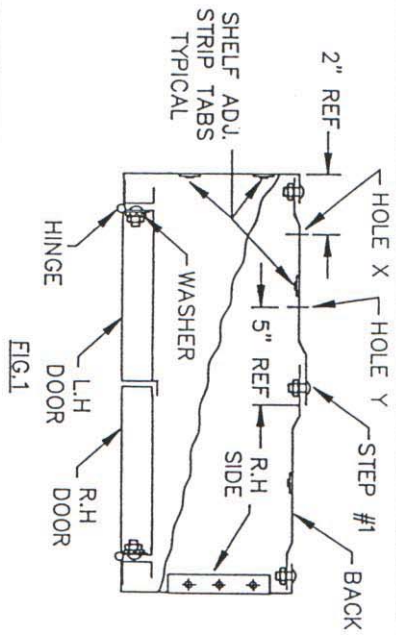
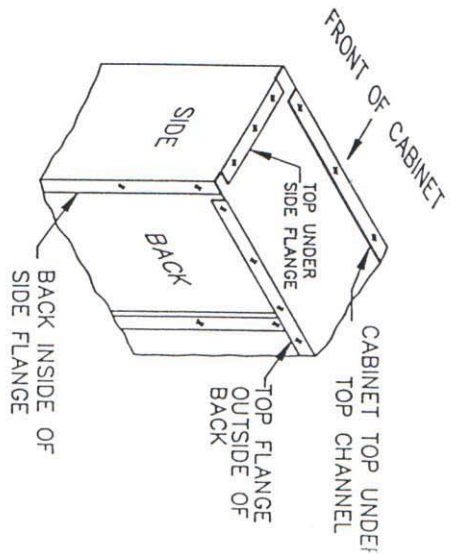
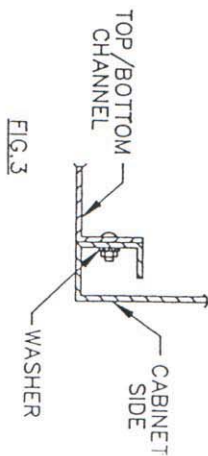

FIG.1
FIG.2
FIG.3
- LAY DOWN TWO SPLIT HALF BACKS, KEEPING SHELF ADJUSTING STRIPS WITH THE TABS ON BOTH PIECES POINTING IN THE SAME DIRECTION AND BOLT THEM TOGETHER WITH #10 SCREWS AND NUTS.(FIG.1)
- POSITION THE TOP SO THE REAR FLANGE IS OUTSIDE THE BACK AND BOLT IT TO THE BACK.(FIG.2)
- TAKE RIGHT HAND CABINET SIDE, PLACE IT'S REAR FLANGE UNDER THE BACK AND TOP FLANGE OVER THE TOP, ALIGN HOLES AND BOLT IT TO BACK AND TOP.(FIG.1&FIG.2)
- SLIDE TOP CHANNEL OVER THE FRONT EDGE OF CABINET TOP. BOLT IT TO SIDES (1/4"-20 SCREWS) AND TOP.(FIG.2 & FIG.3).
- BOLT THE BOTTOM CHANNEL TO THE SIDES WITH 1/4"-20 HARDWARE.(FIG.3)
- TAKE THE DOORS AND LINE UP HINGE SLOTS IN DOORS WITH HINGES (WELDED TO CABINET SIDE). BOLT DOORS TO THE HINGES. THE RIGHT HAND DOOR HAS A HOLE FOR THE HANDLE.(FIG.1)
- 1 LAY DOWN TWO SPLIT HALF BACKS, KEEPING SHELF ADJUSTING STRIPS WITH THE TABS ON BOTH PIECES POINTING IN THE SAME DIRECTION (IF 48" WIDE) AND BOLT THEM TOGETHER WITH #10 SCREWS AND NUTS (FIG.1)
- NOTE: 36" WIDE CABINET BACKS DON'T HAVE SHELF ADJ. STRIPS. WHEN ASSEMBLING BACKS FOR 36" WIDE UNITS, BE CAREFUL TO POSITION HOLES "X" & "Y" IN THE LOCATIONS SHOWN (FIG.1) HOLES X & Y ARE LOCATED NEAR THE TOP AND BOTTOM EDGES OF BACK PCS. IF ASSEMBLED INCORRECTLY, HOLES AT THE TOP AND BOTTOM WILL NOT MATCH OTHER PCS.
- 2 TAKE RIGHT HAND CABINET SIDE, PLACE IT'S REAR FLANGE UNDER THE BACK. LINE UP HOLES AND BOLT IT TO THE BACK (FIG.1)